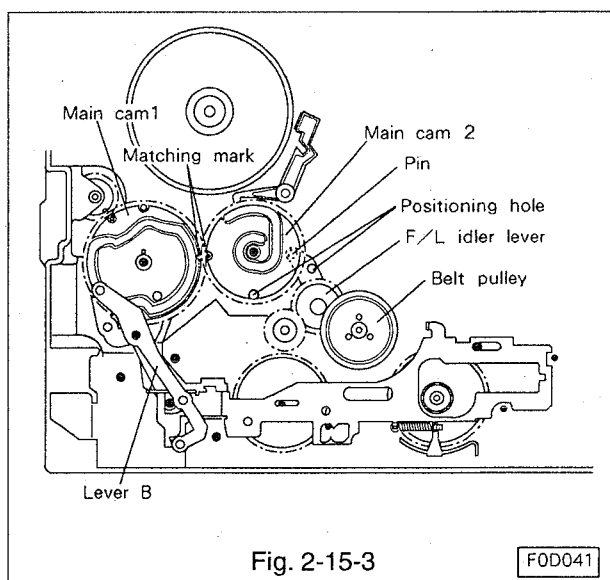

Fig. 2-15-3
- F. Assemble lever B to the shaft so that the pin of the lever shown in Fig. 2-15-3 enters the groove of the main cam 1. Secure the lever with a grip ring.
- G. Line the positioning hole of the F/L idler lever with that of the main plate. (Refer to Fig. 2-15-3.)
- H. Line the matching mark of main cam 2 with that of main cam 1, and also the positioning hole of the main cam 2, and assemble the main cam 2 to the shaft. (Refer to Fig. 2-15-3.)